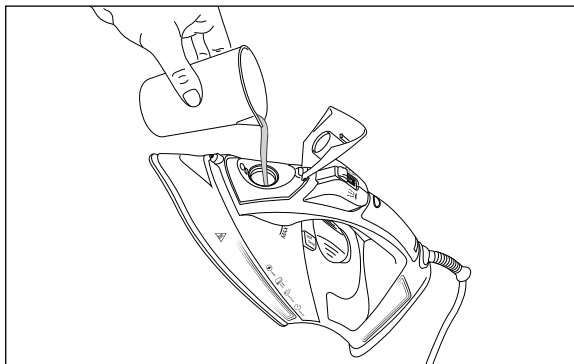

Fig. 4
- 3) Fill the measuring cup **15** with tap water or distilled water. Use the measuring cup **15** to fill the water tank **16** (see Fig. 4).